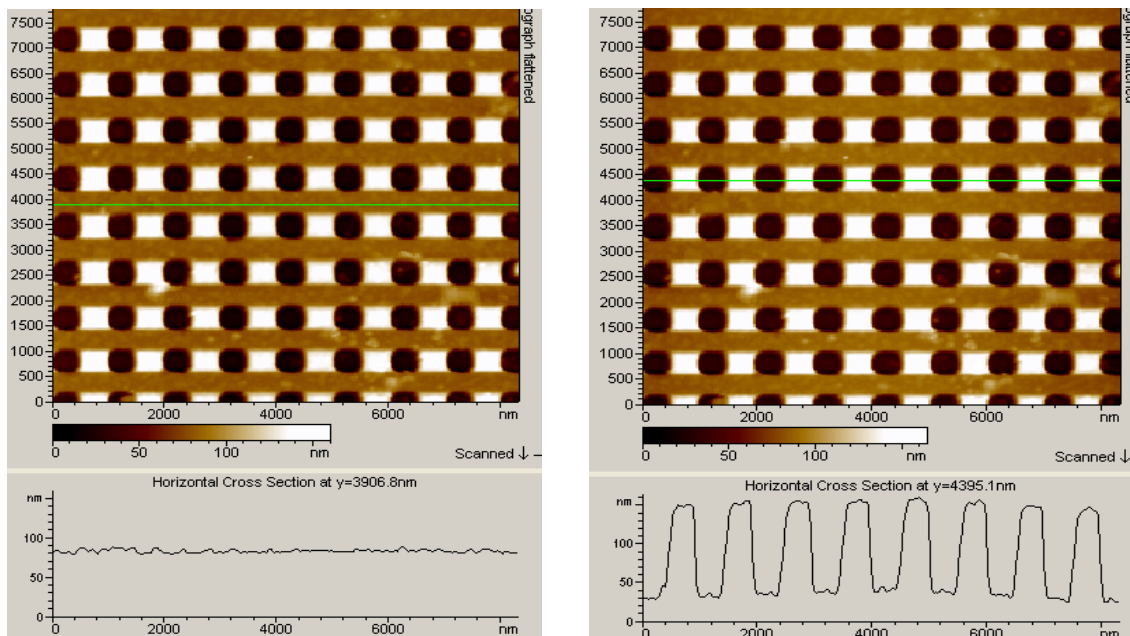

Fig. 5.2 Topography (top) and cross-section (bottom) images of a standard grating with flattened image rendering
- The flatten algorithm for image rendering sets the average to be equal for each line on the X-axis as displayed. This is done by applying a polynomial fit to the data, which is then subtracted from the raw data, and the rendered data is then displayed in the image buffer. This means that lines where the data is flat will be adjusted so they are displayed in the center of the data. This can be seen in Fig. 5.2 below. Notice how all of the data is centered in the Z display range.